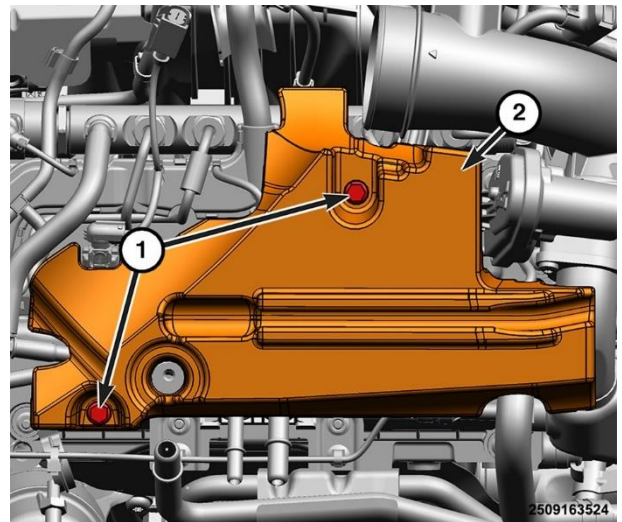

Figure 113– Fuel Rail Cover
34. Remove the left fuel rail cover bolts (1) and the left fuel rail cover (2) (Figure 113).